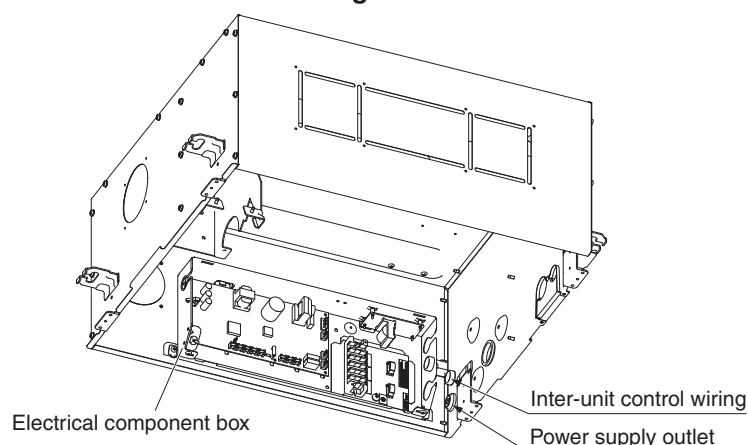

Fig. 3-81
- (2) Fasten the wiring connector (7P, red) which comes out from the ceiling panel using the lead wire clamps (2 locations) on the unit. Then connect it to the connector (7P, red) inside the indoor unit electrical component box. (Fig. 3-81)